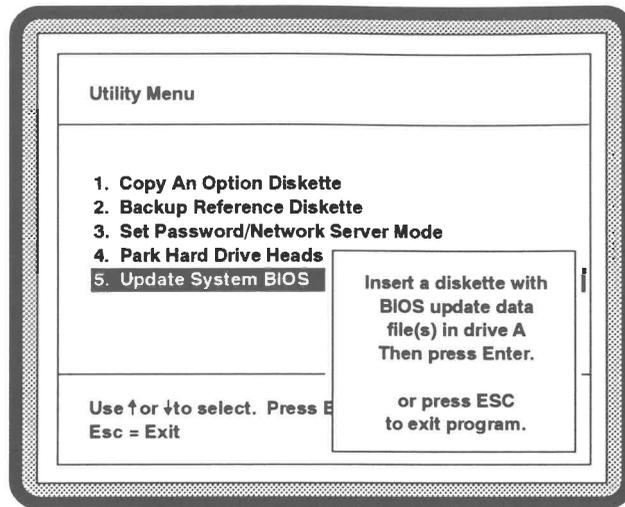

Figure B-1 Selecting the BIOS Update Utility
4. From the **Utility Menu**, select **Update System BIOS** and press Enter (see Figure B-1).
NOTE: Figure B-1 is a composite of the windows you will see while carrying out this procedure. It is intended to show a portion of the program sequence.